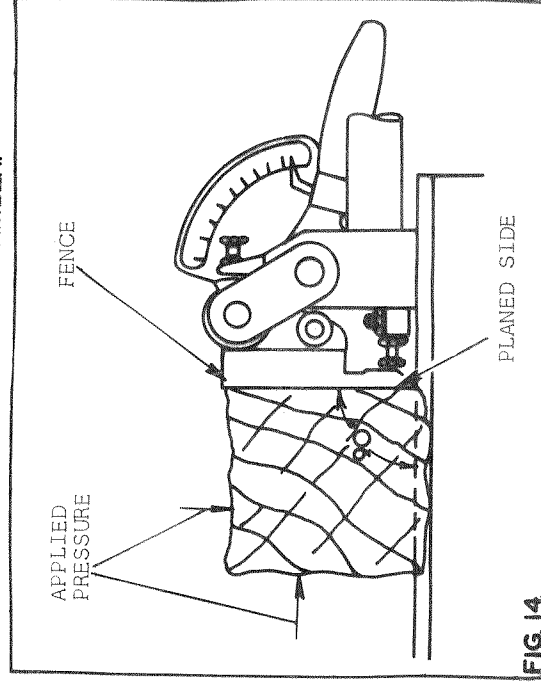

FIG. 14.
4. When planing four sides of timber, square turn the timber anti-clockwise after each cut, so that there will always be a machined face next to the fence as in Fig. 14. The fence locates accurately at 90°.